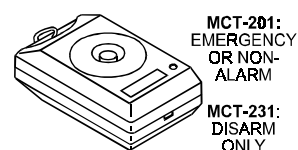

Figure 22. MCT-231 / 201
B. MCT-231 / 201* (Fig. 22): Single-button pendant units. The MCT-231 (CodeSecure) and the MCT-201 (PowerCode) can be enrolled to perform functions as shown. Both units look alike.